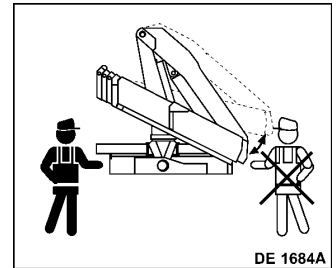

fig. 30a
- Lift the inner boom over the horizontal line, by operating lever **G** whilst paying attention to the position of the booms (fig. 30a) (in case of operation from the double control side).
- Fold the inner boom to its stroke end, paying attention that the rest locating pin lines up with its seat and to the boom movements (fig. 30a) (in case of operation from the double control side).